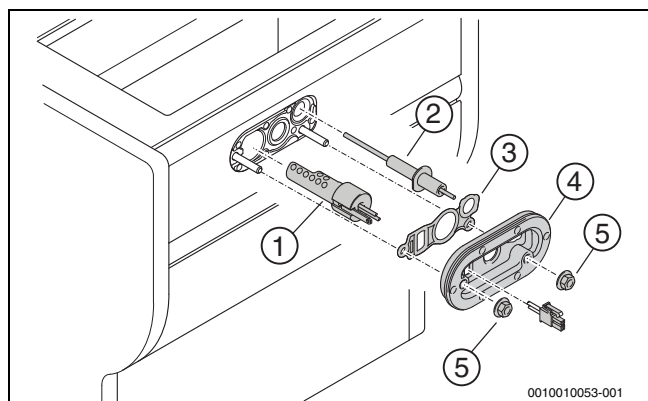

Fig. 60 Replacing the ignition device
- ▶ Replace the gasket (→ figure 60, [3]) and cover plate with gasket (→ figure 60, [4]) every 4 years.